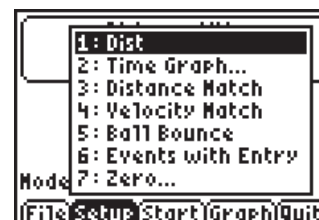

Figure 2
- The default unit of measurement on the EasyData App is meters. This activity will be done in feet. To change the units of measurement, select the **Setup** menu soft key by pressing the $\boxed{\text{WINDOW}}$ key on the top row of the calculator. From the **Setup** menu, choose **1:Dist** by pressing $\boxed{1}$ or $\boxed{\text{ENTER}}$ since **1** is highlighted. **See Figure 2.**